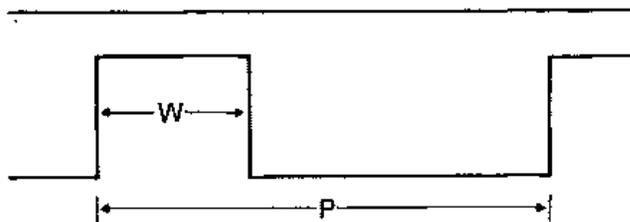

Figure F-3.
- Symmetry defined as a percentage is the ratio of positive half cycle time to the period (see figure F-3):